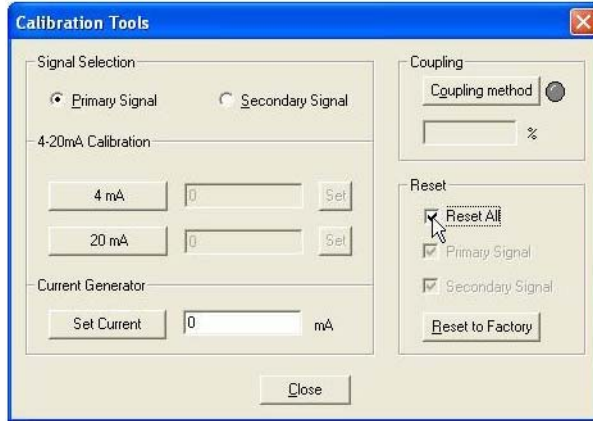

Figure 240 Selecting Reset All
1. Select the checkbox, located to the left of *Reset All* (Figure 240).